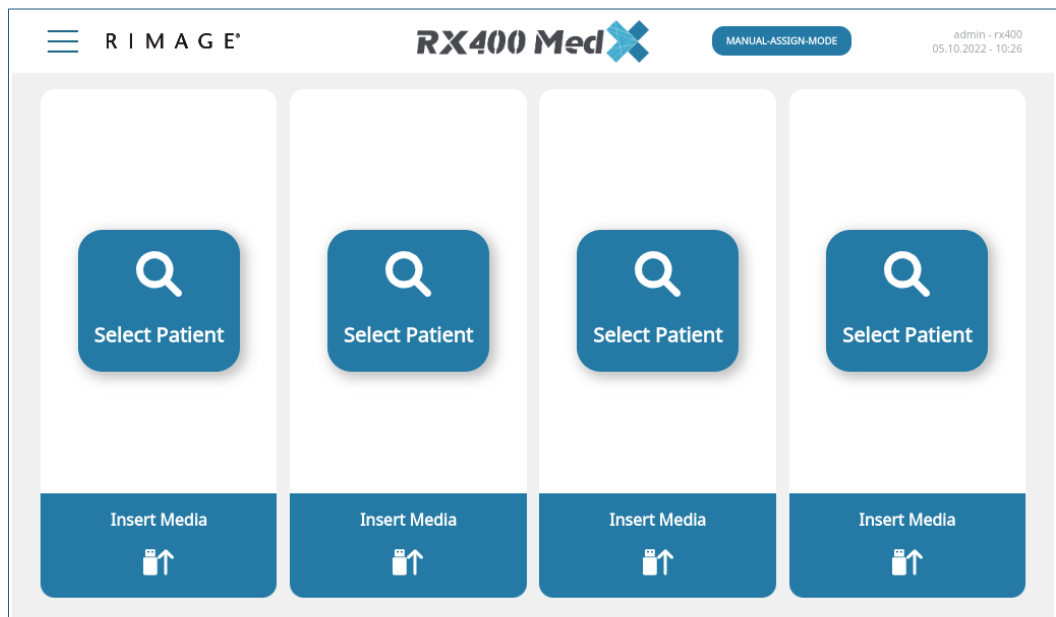
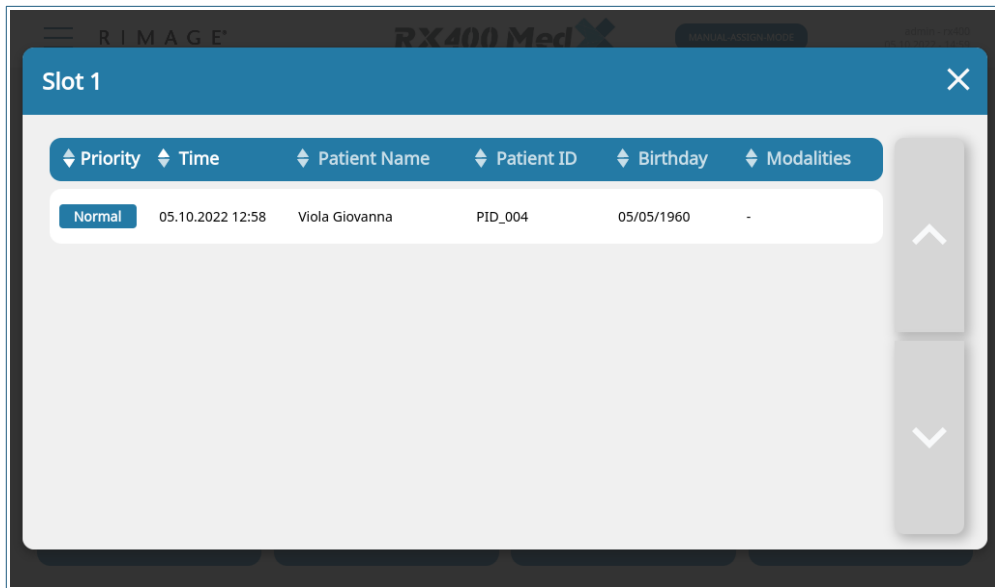
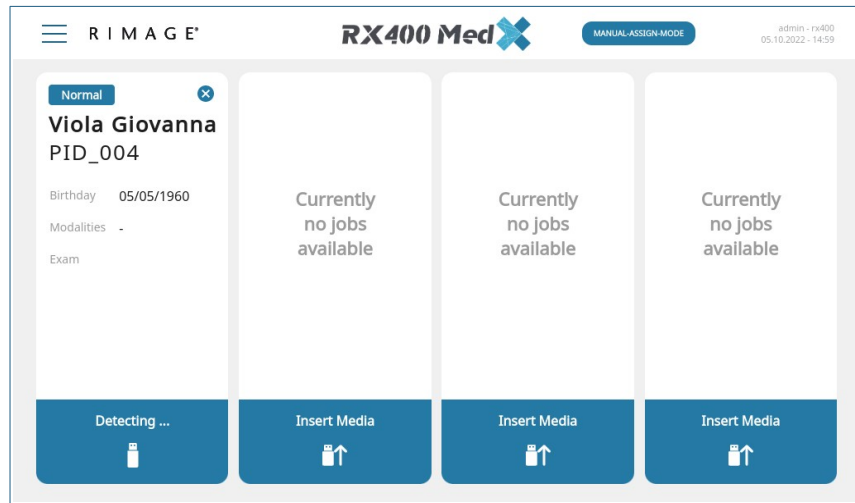

Figure 20: Home screen with running tickets
Figure 28: Job Select List
Figure 29: Slot Overview
In Manual Assign Mode, when at least one ticket is available and in a running state, the *Select Patient* button displays on the home screen (see figure 20). Tap this button to open the *Job Select* list (see Figure 28).
The parameters displayed both in the *Job Selection List* (see Figure 28) and the *Slot Data Overview* (see Figure 29) can be defined in the settings under *Card*.
In the *Manual Assignment Mode*, the presence of pending jobs is indicated by the *Select Patient* button (Figure 20, page 24), which is shown on all free slots, no matter if an USB Stick is inserted or not.
2. The *Job Select List* appears. (Figure 28, page 29).